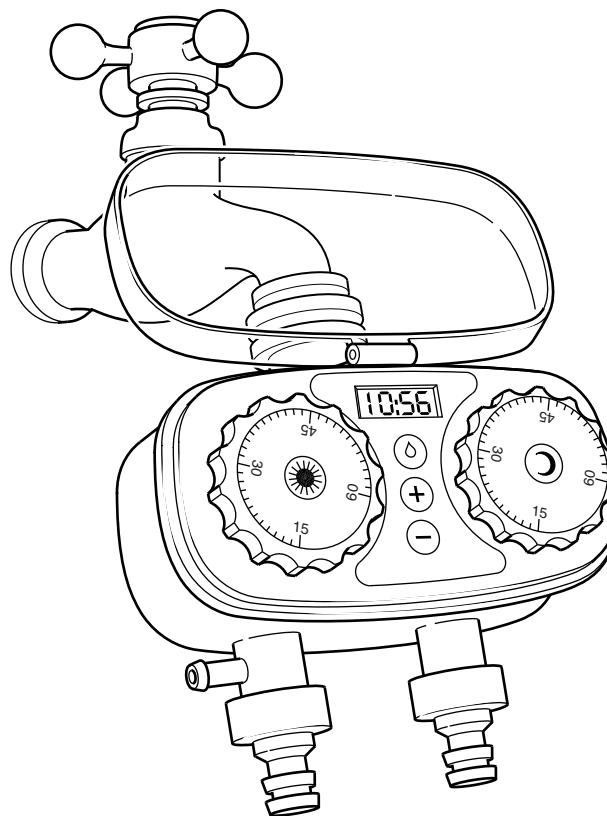

Fig. 1
- 16 Fig. 1 shows a garden watering controller.
- (a) Identify **three** design features of the garden watering controller shown in Fig. 1.